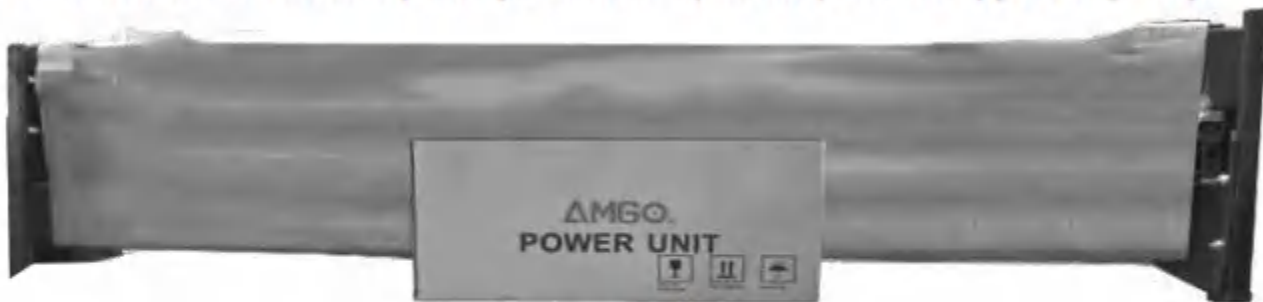

Fig. 10
1. Whole set of one unit (Packaged lift and hydraulic power unit) (See Fig. 10).